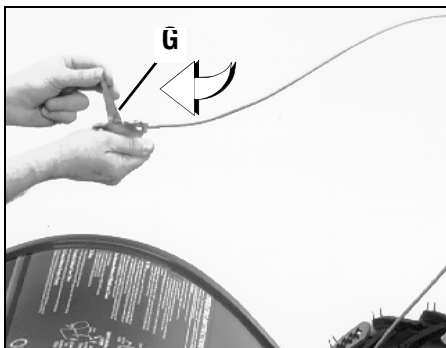

Figure 2-5: Carefully unwrap Wheel Gear Lever and move lever to DISENGAGE.
7. To remove the tiller from its shipping platform, first carefully unwrap the wheel gear cable (with attached lever - see Figure 2-5) from around the chassis. Move the Wheel Gear Lever (G) to the DISENGAGE position--this allows the wheels to rotate freely. Use the handlebars to roll the tiller off the platform.